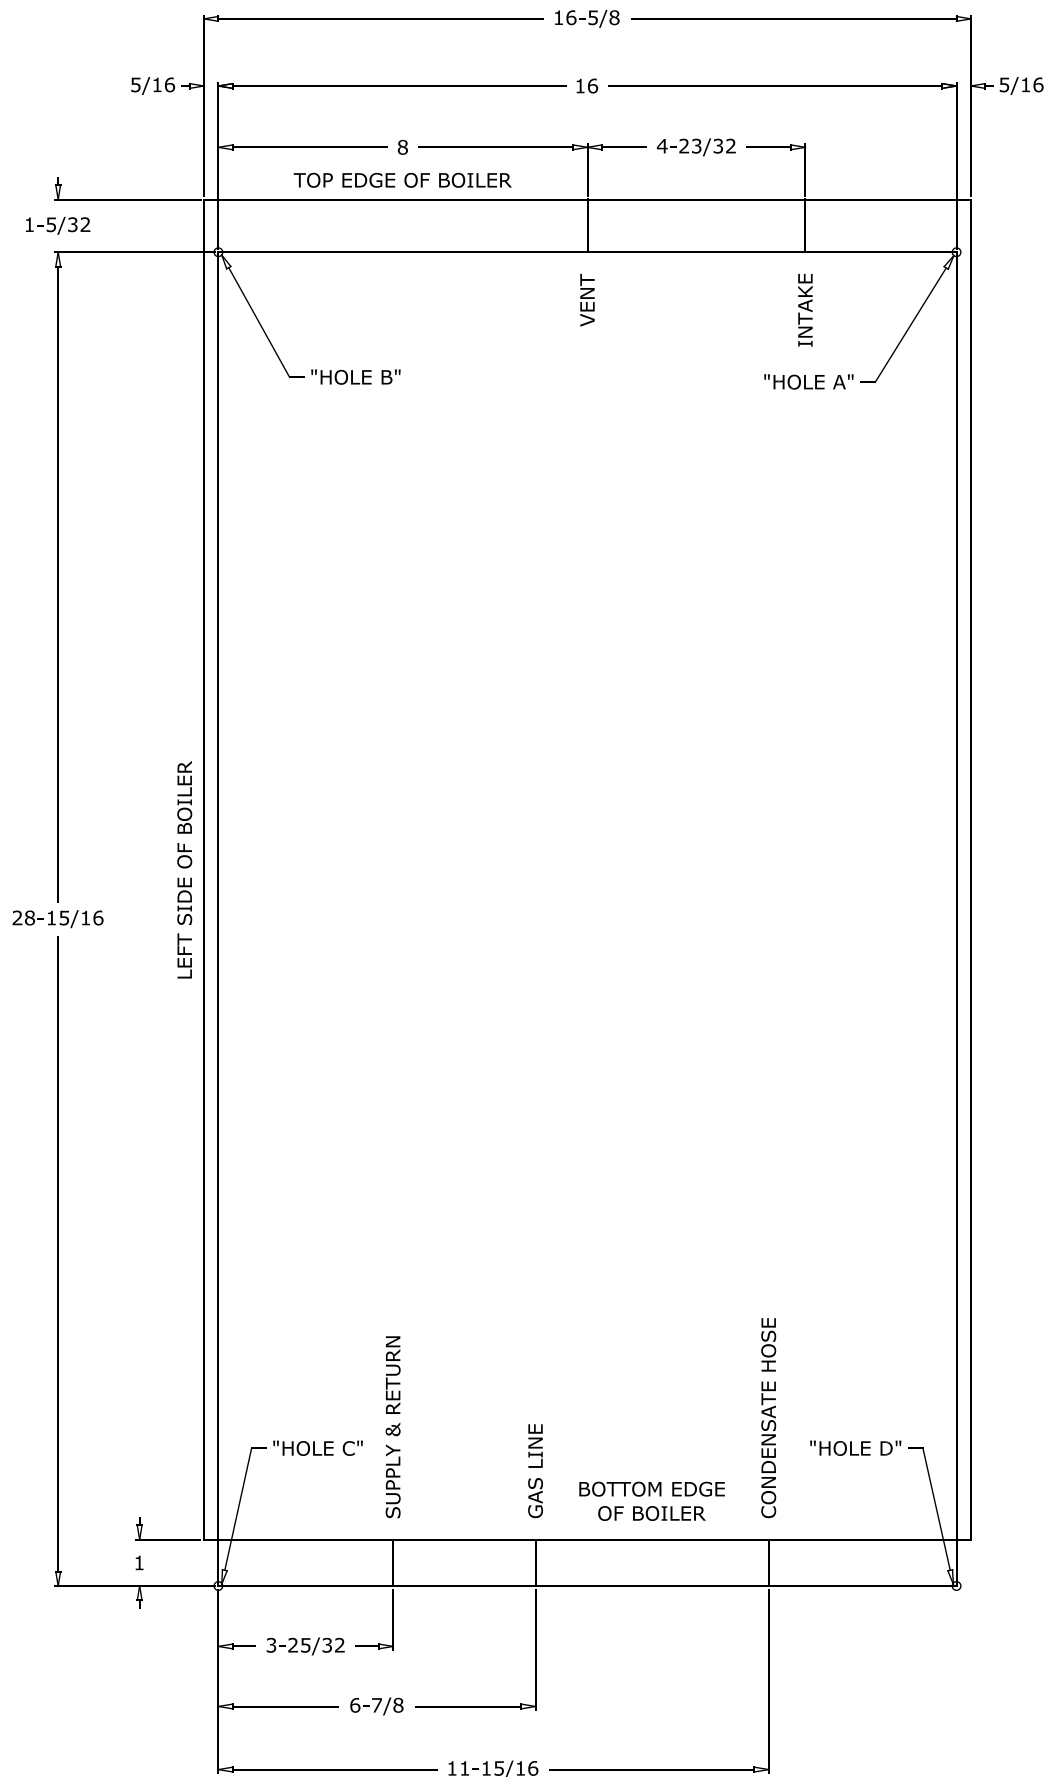

Figure 5.1 Wall Layout/Mounting Hole Location
5. Once a suitable location has been selected for the boiler, and any needed modifications have been made to the wall, use Figure 5.1 to locate holes "A" and "B". Make sure that the horizontal centerline of these holes is level. Holes "C" and "D" may also be drilled at this time or after the boiler is hung on the wall. If the 5/16" x 2" lag screws are used, drill 3/16" pilot holes.